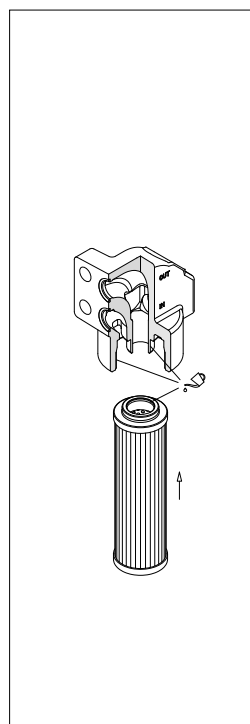

fig. 7
- (Fig. 7) Lubricate with the operating fluid the filter element O-ring, the housing tap and cavity, then fit the filter element on the tap. Pay attention not to damage the O-ring seal